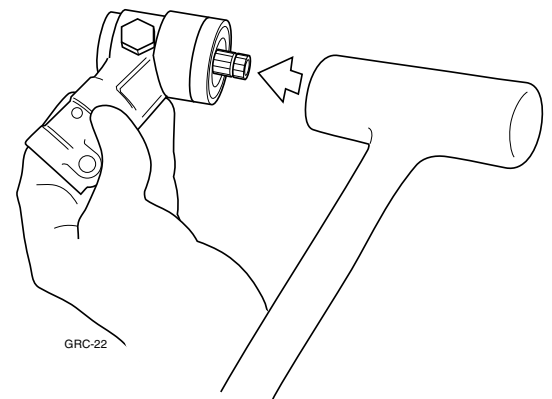

Figure 11.22 Seat the output shaft and gear assembly.
**STEP 2.** Hand-fit the output shaft and gear assembly to the inner bearing, then seat it firmly with a soft-faced hammer (Figure 11.22).